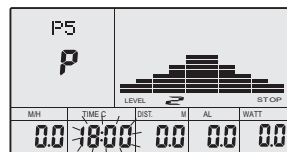

fig 26
- C. The time will flash, and then press(or rotate) UP, DOWN button to set up your desired time. Press ENTER to confirm the value. (See fig 26)